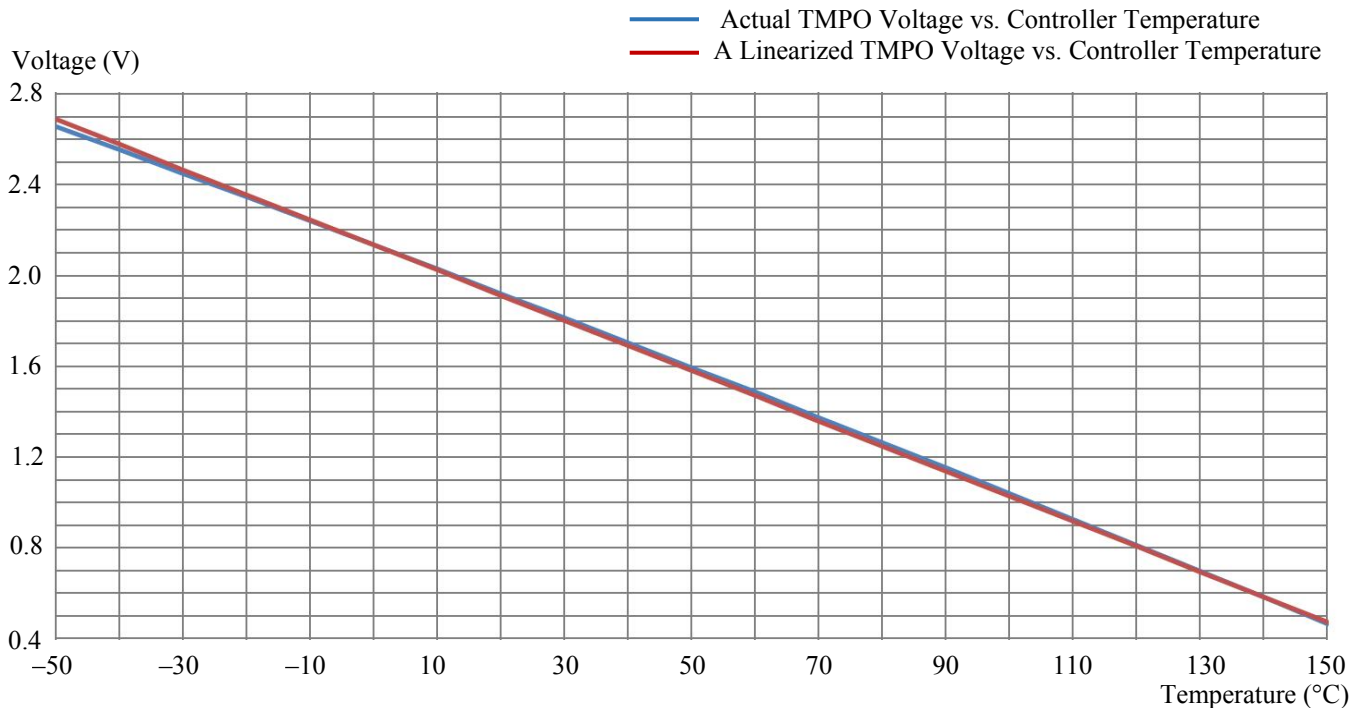

Figure 24. Controller Internal Temperature vs. TMPO Voltage
Within the most commonly used temperature range of between 0°C to 100°C, the maximum error occurs at about 1.5V, at which the temperature error between the calculated data by using the formula (1) and the approximated data obtained by using the linear equation (2) is about 0.4°C, with the linear data being a little lower. The curves of the 2 sets of the data are plotted in Figure 24.